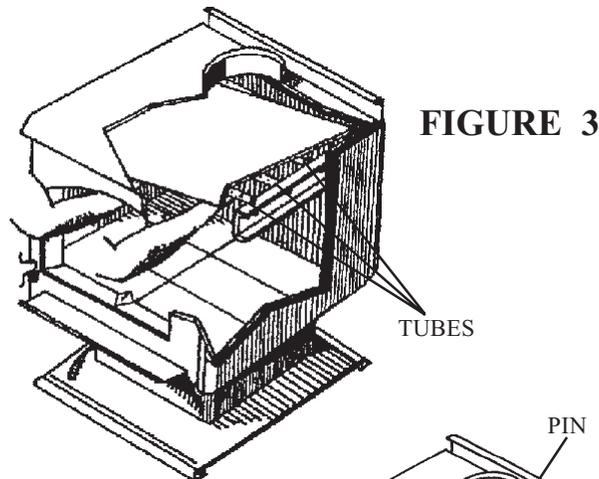

FIGURE 3
5. To remove the secondary combustion tubes, slide them to one side until one end is out of its hole. Then, while lifting that end of the baffle plate, pull the tube up over the secondary air channel and out of the hole at its other end. See **Figure 3**